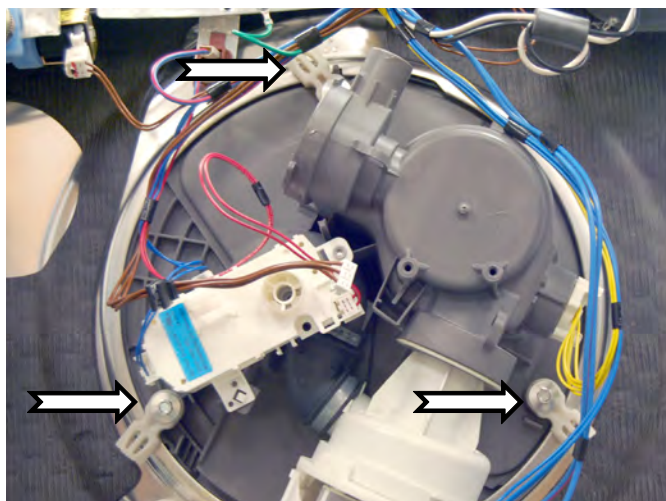

Figure 8 - Tab Locations
7. Unlock the three tabs securing the motor and sump assembly to the tub, see figures 8, 9 and 10.